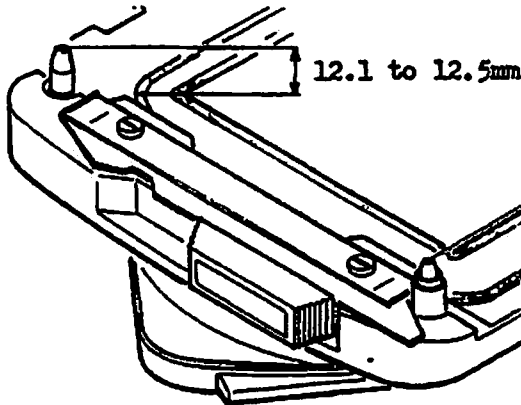

Fig. 95
- (1) The length from the surface of polished guide rail of Revolving adapter to the top of Coupling pin (aRS3151) is kept 12.1 to 12.5mm. (Fig. 95)